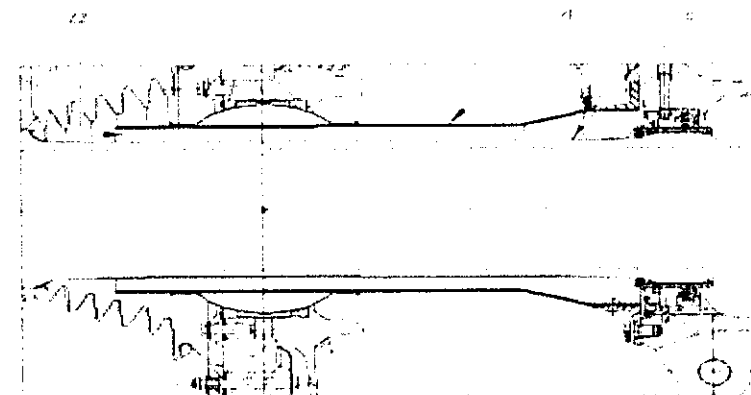
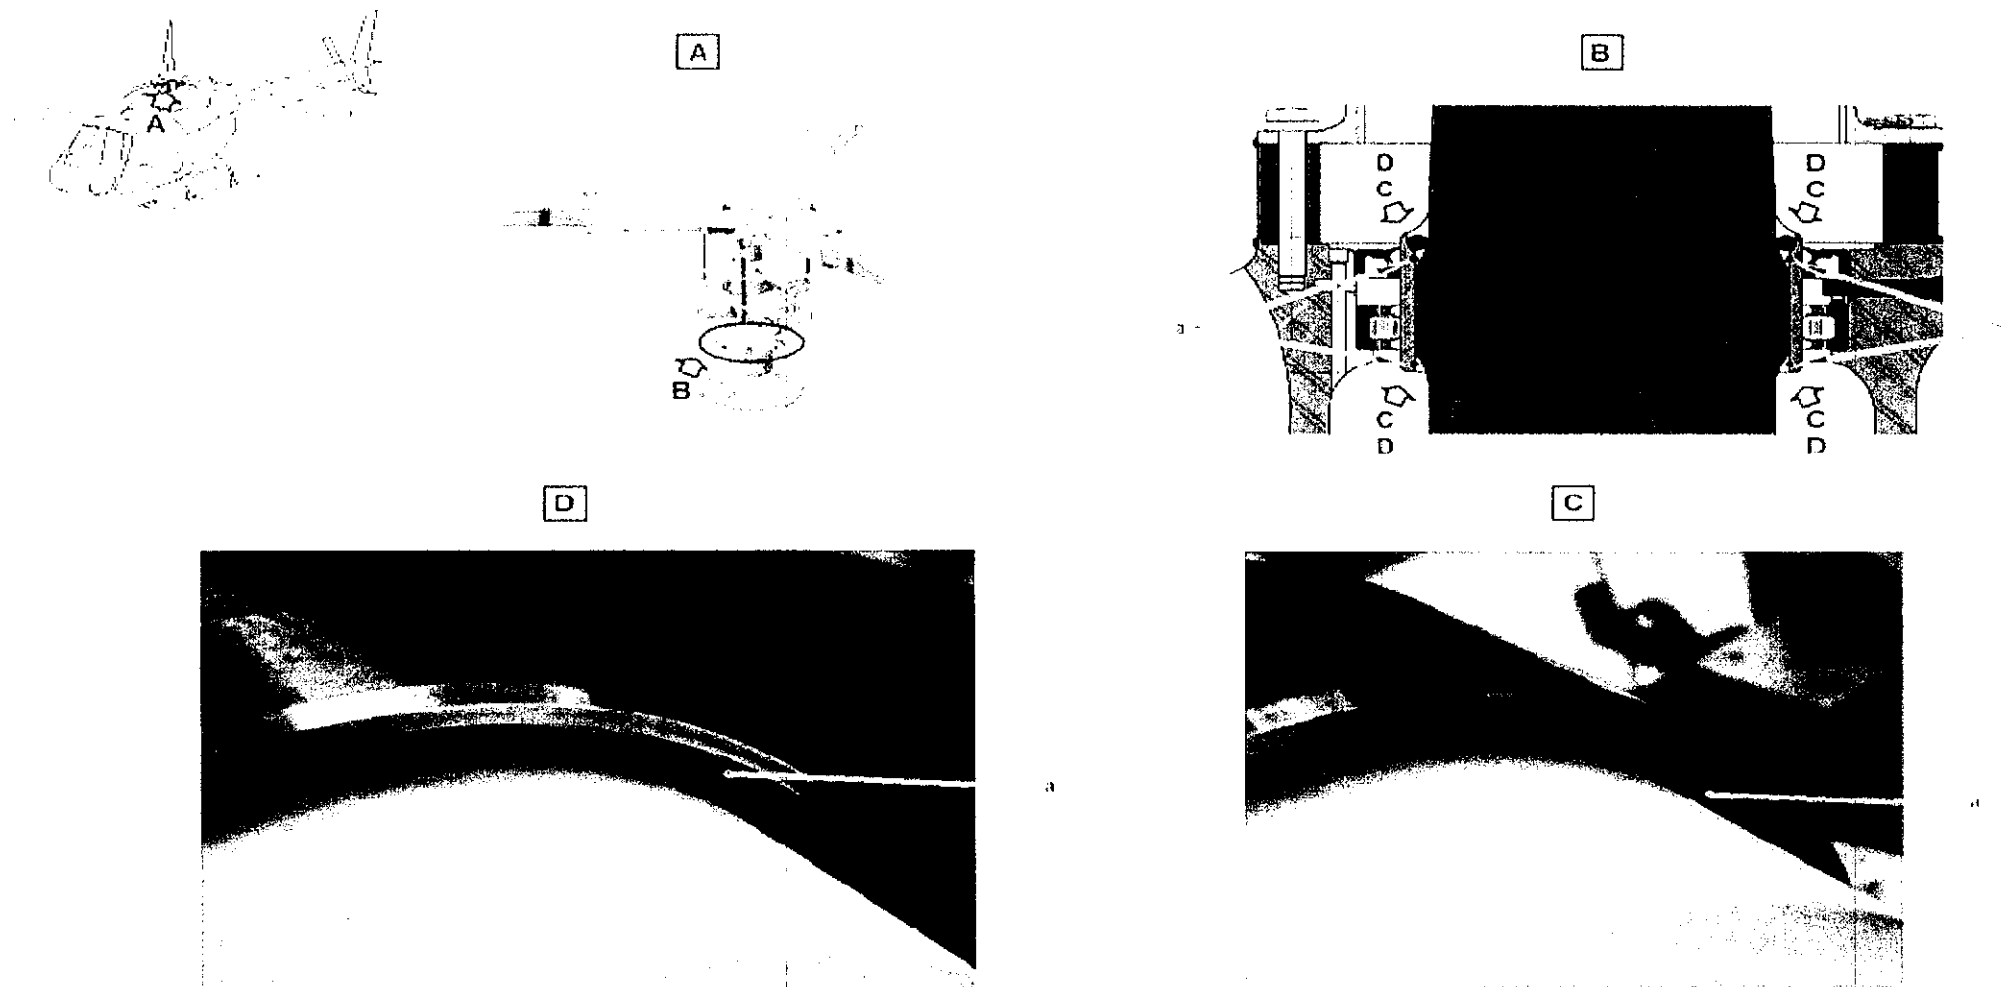
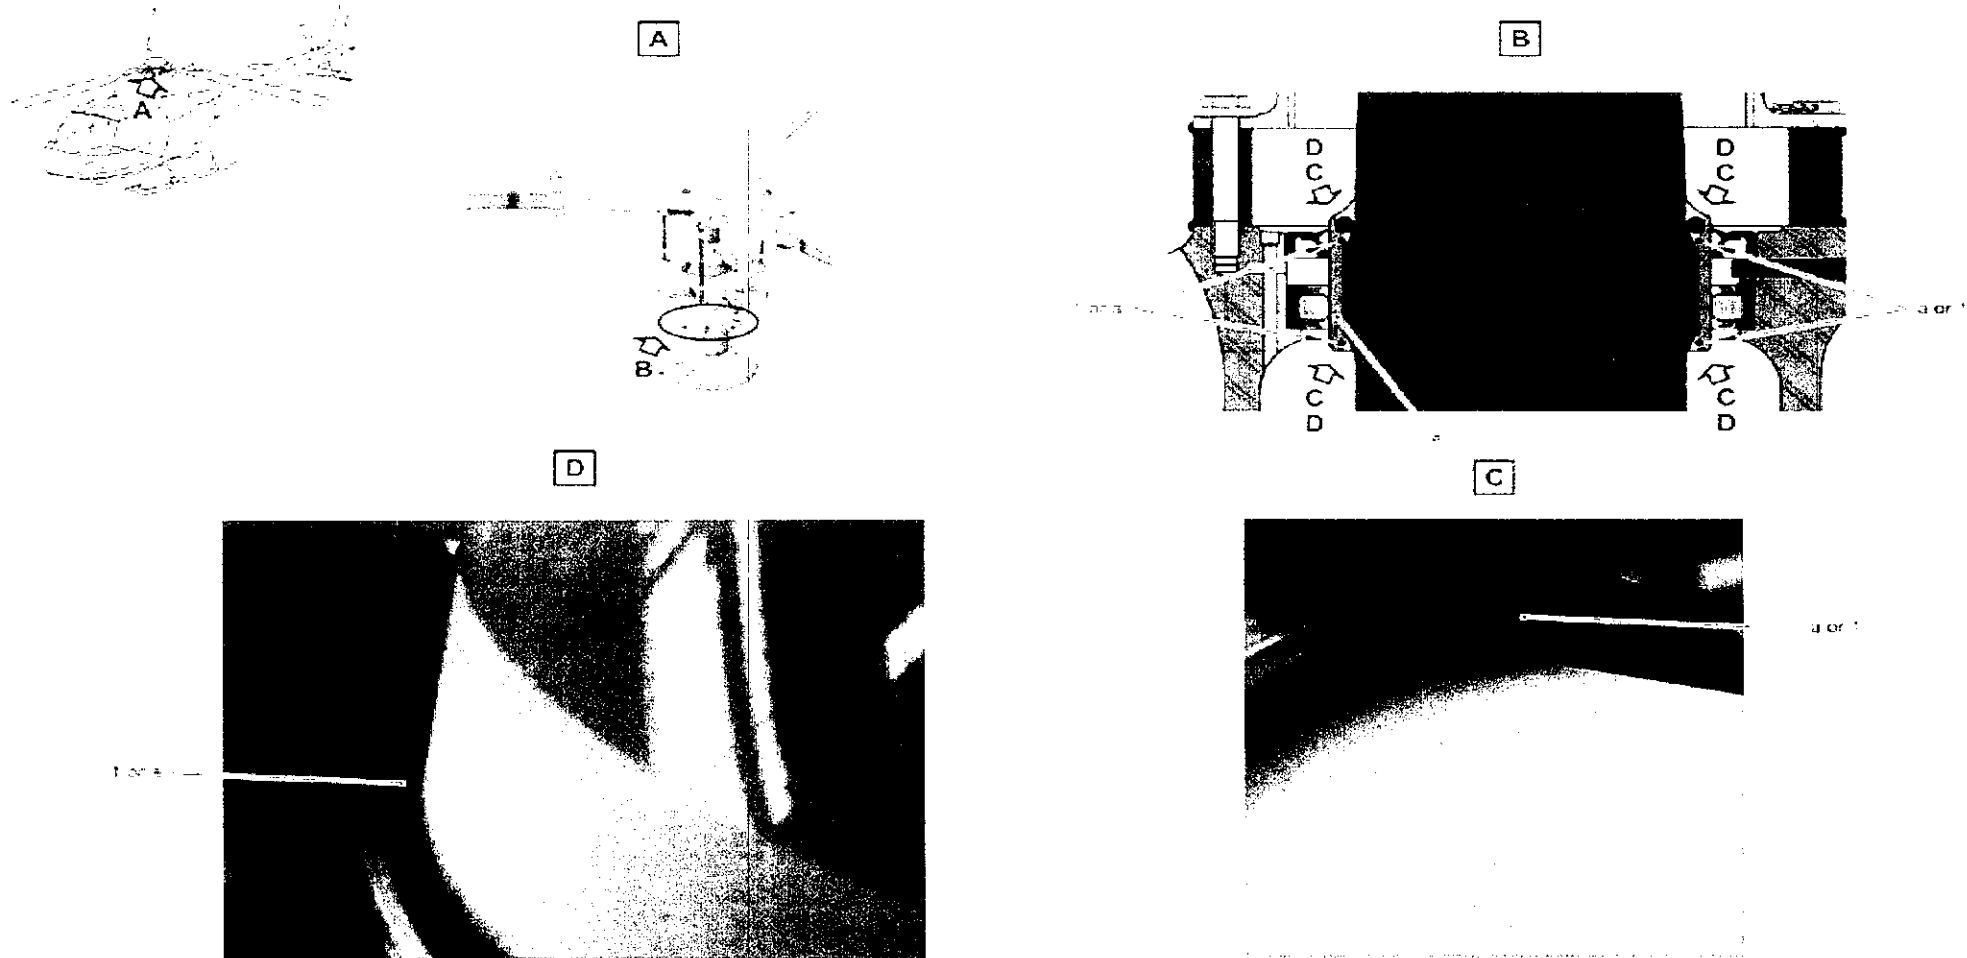

Figure 1 - Endoscopic inspection of the sealant bead
Figure 2 - Incorrect positioning of the bearing retaining rings
Figure 3 - Correct positioning of the bearing retaining rings
3. Check of the two bearing retaining rings (Figure 1, Figure 2, Figure 3, Figure 4) (i.a.w. ASB AS350-62.00.42 R0 para 3.B.2.b)
3.2	<p>Ensure the presence and proper positioning (in their groove) of the two bearing retaining rings (a) over the entire circumference of the main rotor mast (c) (Figure 2 Details C and D (bearing retaining rings poorly positioned) and Figure 3 Details C and D (correct positioning of the bearing retaining rings)),</p> <p>Remarks: N/A MAIN ROTOR NOT REMOVED. S </p>